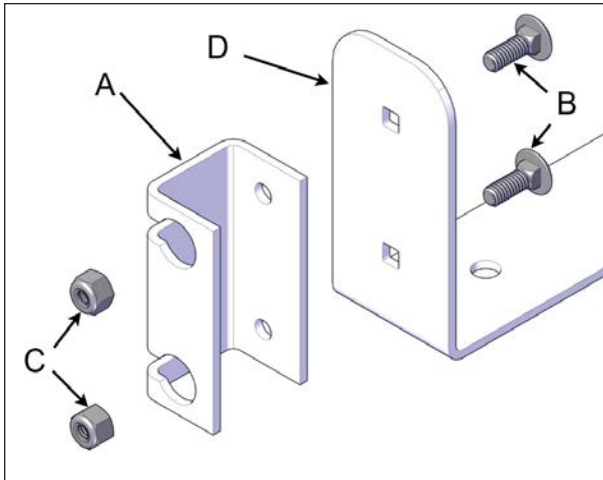

FIGURE 54: SPA ENTRANCE U-FRAME LINK AND METAL COUPLER
12. Install one unpainted metal coupler on each end of the spa entrance U-frame link see Figure 54.
13. Align one coupler with the holes on each end of the spa entrance U-frame link. Use the provided 1/4" x 3/4" carriage bolts, 1/4" nylon-insert lock nuts and fasten the hardware with the 7/16" (11 mm) socket wrench and spanner. There is one metal coupler per side see Figure 54.